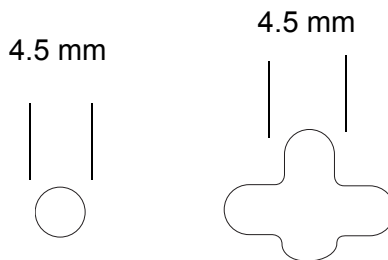

Figure 15. Hole Dimensions
- The holes have a diameter of 4.5 mm (0.2 in.). Refer to Figure 15.